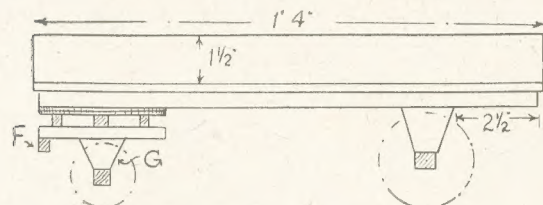
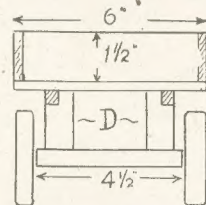
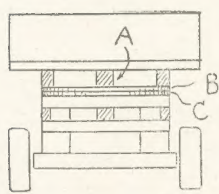
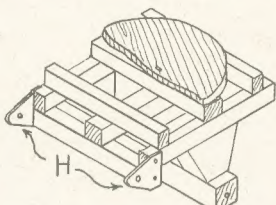

Fig. 1—Side elevation of body and chassis
Fig. 2—A back end view
Fig. 3—Front end view
Fig. 5—Turntable and axle parts
A side elevation is given in Fig. 1, a rear one at Fig. 2, and a front one at Fig. 3. From these a helpful idea of the general construction is given, and certain dimensions. The body is just a tray, as it were, of four sides and a bottom.
Underneath the body two strips of $\frac{1}{2}$ in. by $\frac{3}{4}$ in. wood are glued, running the whole length except just $\frac{1}{2}$ in. each end. These are fixed 1in. from each side, so will measure 4in. across, obviously. In between these, at (A) in Fig. 3, a third strip is glued. This is of $\frac{1}{2}$ in. square stuff and 4ins. long only.
above the bogie which carries the front wheels. Cut a disc of $\frac{1}{2}$ in. fretwood, 4in. diameter, and glue this underneath the body to cover strip (A). It will extend to the side strips as well, as seen at (B) in Fig. 3.
To the side strips, at the end of the body, two pieces of wood (D) to be cut from 1in. deal, are fixed, for supporting the rear axle bar. Fig. 2 shows these, while the details (D) and (E) in Fig. 4 gives dimensions and shape. It will be seen from (E) that these parts are rebated at their tops, $\frac{1}{2}$ in. by $\frac{3}{4}$ in., for them to fix over the side strips underneath the body.
The bogie for the front wheels, see Figs. 1 and 3, consists of strips of wood, 4ins. long, joined together crosswise to make a square of that size. Three pieces each way are required, the side ones being of $\frac{3}{4}$ in. by $\frac{1}{2}$ in. wood, and the middle ones of $\frac{3}{4}$ in. by $\frac{1}{2}$ in. wood, the extra width of the middle ones being necessary to carry the pivot screw on which the bogie swings. It will be seen that the top side strips are placed $\frac{1}{4}$ in. in from the sides.
underneath, shown at (F) (Fig. 1). Supports to carry the axle are fitted at (G). These are cut and shaped from 1in. deal to sizes given at (G) and (E) in Fig. 4, and are fitted on with glue and nails, as for the back axle, already described.
A similar axle is screwed across. A second disc of $\frac{1}{4}$ in. fretwood, 4ins. diameter is now cut; this is glued over the bogie, and comes, when the bogie is fitted to the truck, directly under disc (B) in Fig. 3. It is lettered (C) to distinguish it. A detail of the complete bogie is given in Fig. 5, and shows the
To carry the towing bar, two small pieces of stout metal sheet are screwed where shown at (H) in Fig. 5. These are 1in. long and $\frac{3}{4}$ in. wide, with holes drilled in for fixing, and also for the pins
Having drawn the outline, trace it to a piece of cardboard and cut out a template which can be laid on the wood and pencilled round. The wood is at least $1\frac{1}{2}$ ins. thick. Note, from the small sketch (Fig. 5) the direction of the grain, i.e., it runs the long way of the dog's legs.